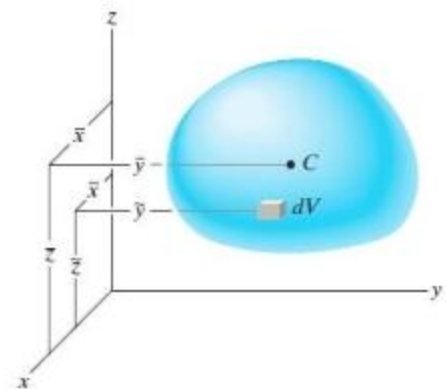

Fig. 9-3
**Centroid of a Volume.** If the body in Fig. 9-3 is made from a homogeneous material, then its density  $\rho$  (rho) will be constant. Therefore, a differential element of volume  $dV$  has a mass  $dm = \rho dV$ . Substituting this into Eqs. 9-2 and canceling out, we obtain formulas that locate the centroid  $C$  or geometric center of the body; namely